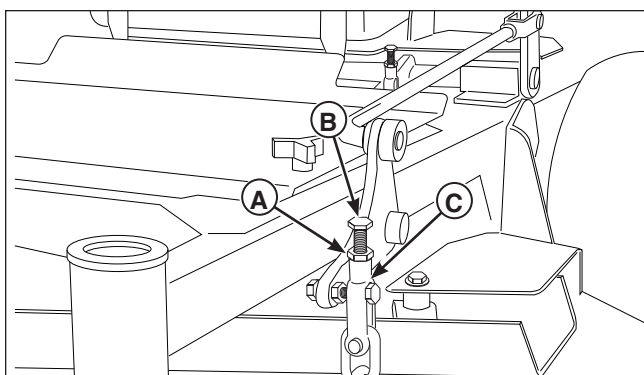

Figure 26. Deck Level Adjustment
- Loosen the jam nut (A, Figure 26) on the adjuster bolt (B) in the chain hanger clevis (C). Turn the adjuster bolt until the correct measurements are achieved. Ensure that all four hanger chains are taut, then retighten the jam nut against the chain hanger clevis.